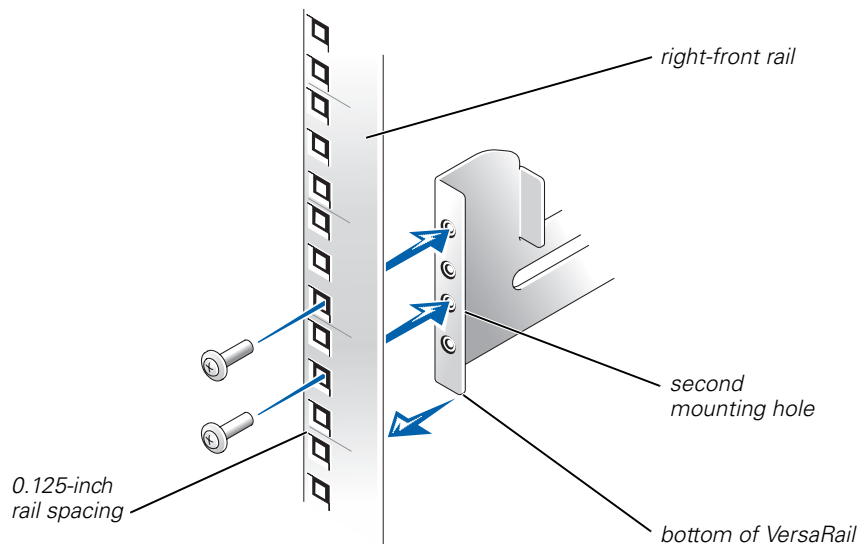
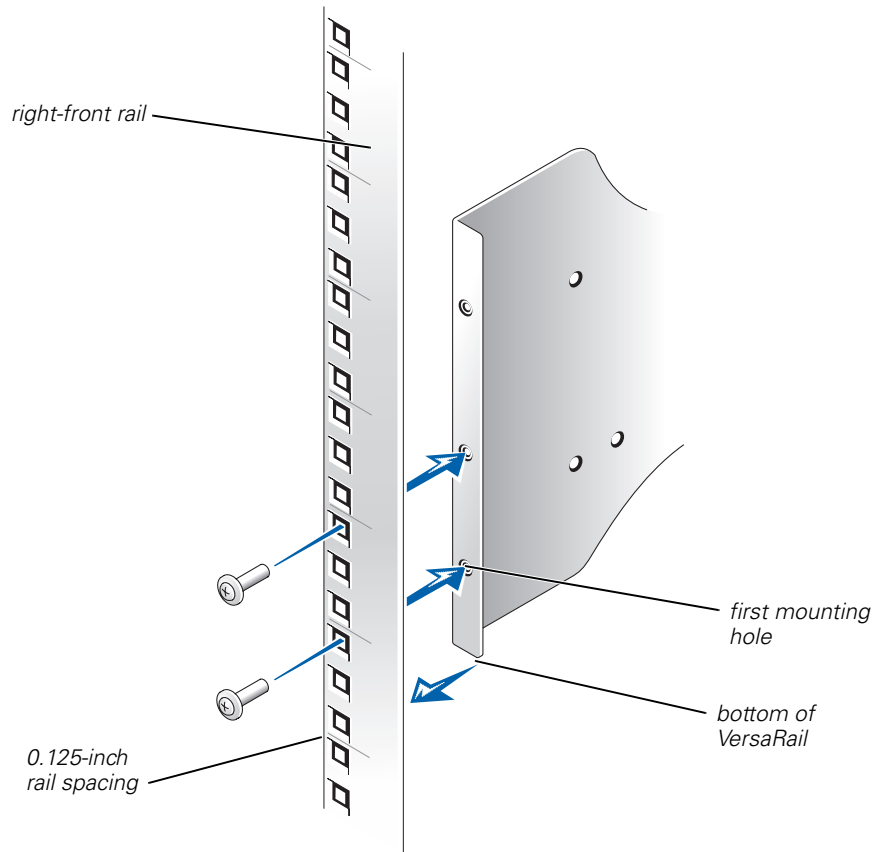

Figure 1-1. Aligning and Installing the VersaRail for a 2U System in the Front Vertical Rail
Figure 1-2. Aligning and Installing the VersaRail for a 4U System in the Front Vertical Rail
2. Position the VersaRail's mounting flange against the inner side of the rack's front vertical rail so that the bottom of the VersaRail is aligned with the 0.125-inch spacing on the rack's front vertical rail (see Figure 1-1 for 2U systems and Figure 1-2 for 4U and 7U systems).
3. Secure the front of the VersaRail to the rack using two Phillips-head screws (see Figure 1-1 for 2U systems and Figure 1-2 for 4U and 7U systems).
NOTE: Ensure that you use the mounting holes, as shown in Figure 1-1 and Figure 1-2, to secure the front of the VersaRails to the rack. The second and fourth mounting holes from the bottom of the VersaRail are used to secure a 2U system to the rack. The first and second mounting holes from the bottom of the VersaRail are used to secure 4U and 7U systems to the rack.